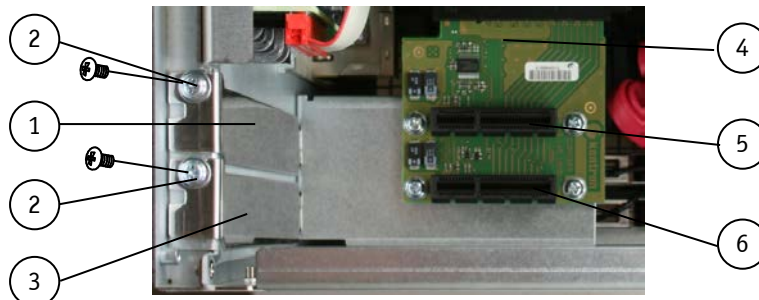
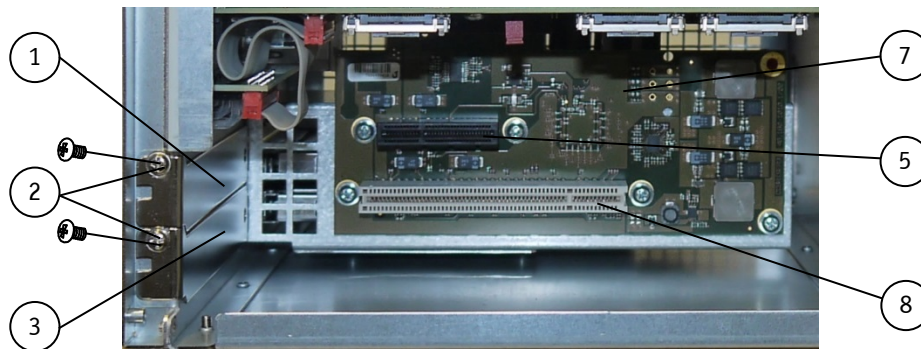

Fig. 44: Detail of the KBox C-101-2 with PCIe riser card with 2x PCIe x4 sockets
Fig. 45: Detail of the KBox C-101-2 with PCI-PCIe riser card with 1x PCI (32 bit) and 1x PCIe x4 sockets
(Fig. 44, pos. 5 and pos. 6) / (Fig. 45, pos. 5 and pos. 8) and (Fig. 62, pos. 12).
3. To remove/install an expansion card, you have to remove the corresponding card/slot bracket (refer to Fig. 58/Fig. 60 and Fig. 44/Fig. 45). Loosen the corresponding fastening screw on the internal side, which secures the slot/card bracket and remove it. Retain the screw for later use (refer to Fig. 44/Fig. 45, pos. 2).
Legend for Fig. 44 and Fig. 45:
4. Insert/remove the expansion card into/from the corresponding PCI/PCIe x4 socket of the corresponding riser card (Fig. 44, pos. 5, pos. 6 or Fig. 45, pos. 5, pos. 8).